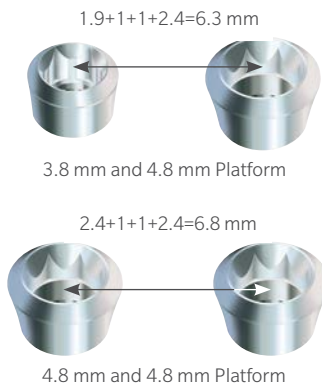

Fig. 4a
- Partially or fully edentulous restoration affects placement and spacing between implants (Fig. 4a).